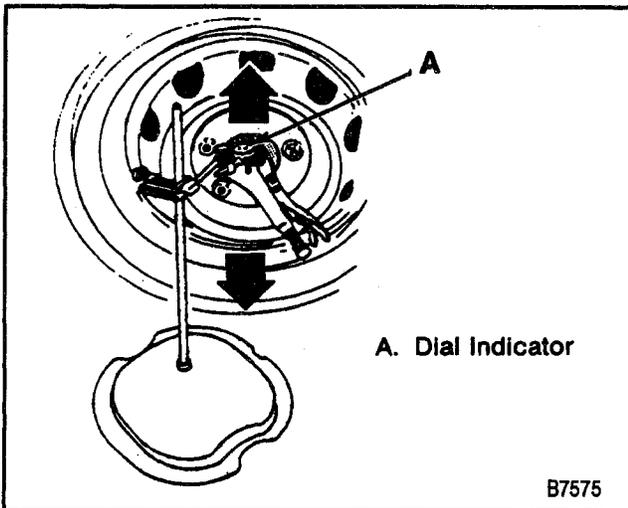

Figure 3—Dial Indicator Position
- With the vehicle on the jack stands, place a dial indicator against the spindle to show vertical movement (Figure 3).